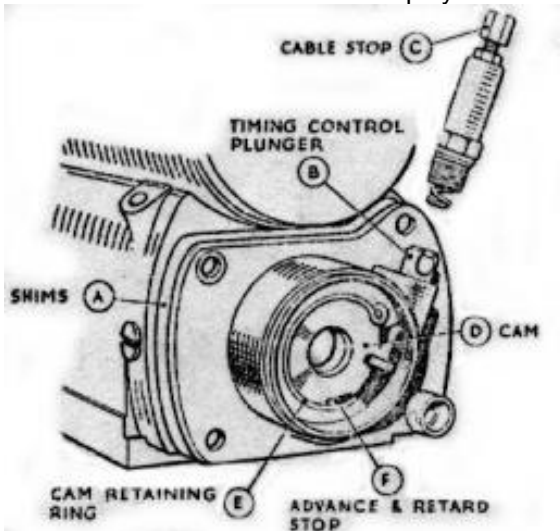

Fig. 55. Magneto contact breaker end showing fitting of cam, timing control and shims.
armature should revolve freely when turned by hand but no end play should be felt. Adjust by adding or removing shims (A, Fig. 55) and spring and secure by tightening the cable stop (C). Locate the cam (D) in the contact breaker housing with the timing control plunger in its correct slot as shown in Fig. 55 and secure by springing the circlip (E) into its location in